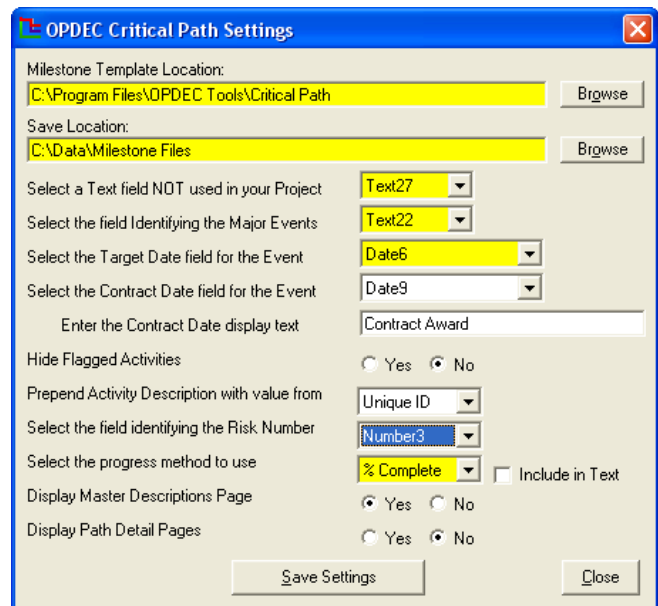

Figure 4
- 1) Before generating a critical path chart, the settings for the tool must be made (Figure 4). Select Tools from the OPDEC Critical Path menu bar and the settings dialog will appear. The fields that are highlighted in yellow are required fields.
- a. Milestone Template Location – Default templates are available in the folder the tool was installed to. See Figure 4 for default installation location.
- a. Directory – this field is where the export utility will look for Milestone Professional files. This field is defaulted to the save directory specified in the Critical Path settings dialog (Figure 4). The browse button will allow you to select a different directory.